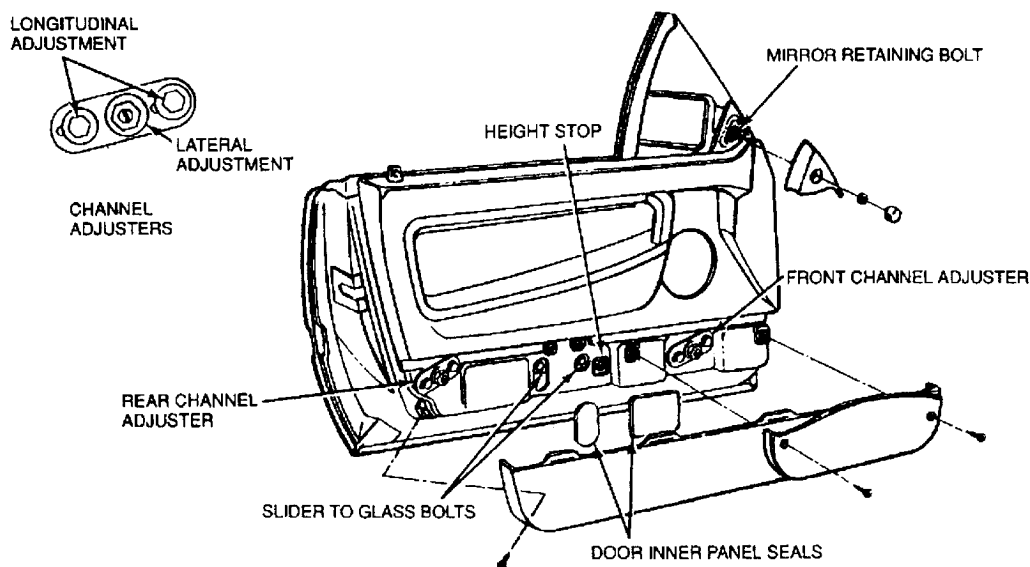

Fig. 3: Door Panel
- 2) Remove the lower door trim, Figure 3.
- 4) Loosen the two (2) screws on the adjuster plate at the bottom of the front window channel, Figure 3.
- 2) Loosen the two (2) longitudinal adjustment screws on the adjuster plate at the bottom on the channel, Figure 3.
- 4) Loosen the lateral adjuster screw locknut, Figure 3, and turn the adjuster to relieve any strain on the channel.